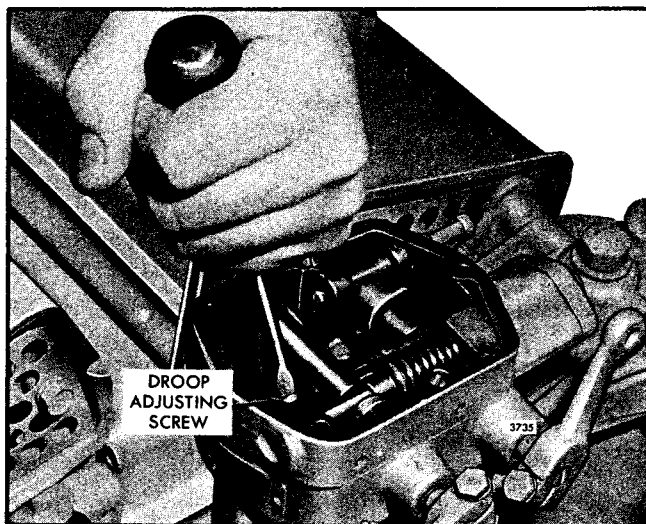

Fig. 9 - Adjusting Speed Droop
4. Loosen the droop adjusting bolt on former units or the screw on current units (Fig. 9). Move the droop bracket so that the screw is midway between the ends of the slot in the bracket. Tighten the screw.